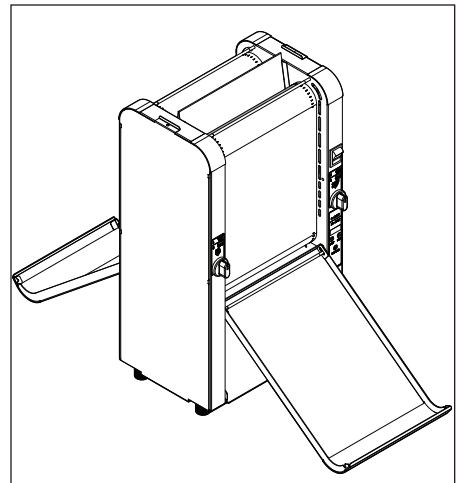

Figure 10. Open front and rear Conveyor Covers
1. Open the front and rear Conveyor Covers (Figure 10)
**NOTE:** Make sure the Conveyor Belt Chain hooks are pointing DOWN as shown in Figure 10.